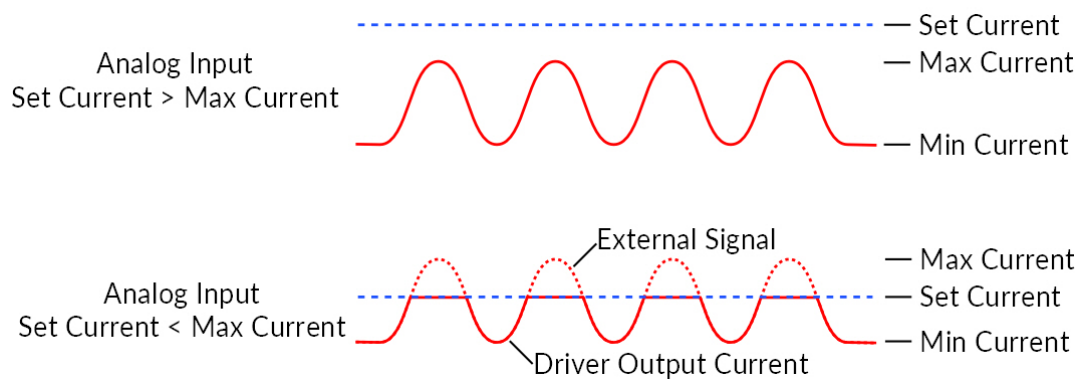

Figure 4.5: Driver and Light Source in External Analog Mode
- c) The **External Analog** mode (Fig. 4.5) is similar to the External TTL, except that the current will be set by the voltage on the BNC input (Fig. 4.5, top). On the input BNC, a maximum voltage signal corresponds to a maximum driver current. Should the current set on the light source be less than the maximum current, any voltage corresponding to a higher current will clip the output waveform (Fig. 4.5, bottom). To avoid any clipping of the output waveform, the maximum current setting must be equal to or greater than the corresponding maximum analog input voltage. See the corresponding light source manual to find the voltage/current relationship. This mode has no additional sequence options.